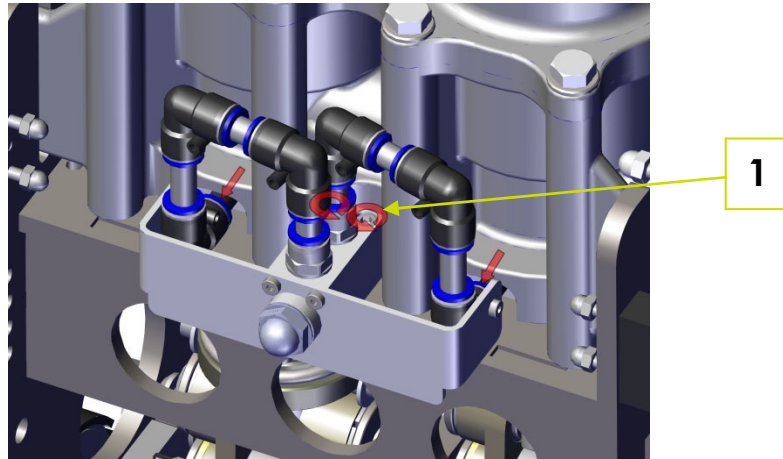

Fig. 5-1: Dismounting the leakage indicator
1. On the right side (Fig. 5-1: Dismounting the leakage indicator) unscrew the two fillister head screws M6x40 (1) (↻).